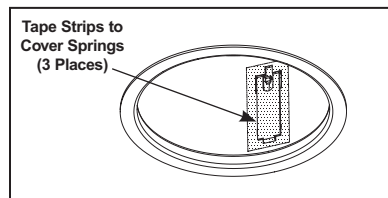

Figure 4
Step 5. To seal housing after confirming correct operation, apply supplied tape strips to completely cover each of the three retention clips and slots. Do not substitute with other materials (Fig. 4).